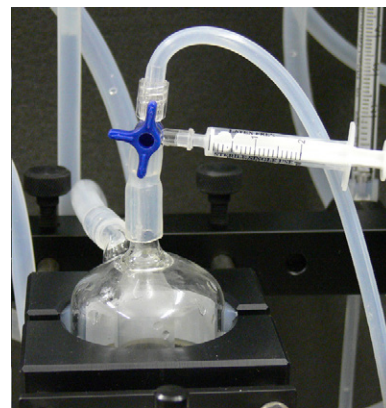

Fig. 34—Connect a syringe to the 3-way stopcock.
15. Fill the elastic chamber with about 2mL of air to dampen the pulsing pressure wave created by the pumping of the left ventricle. Connect a syringe filled with air to 3-way stopcock on the top of the elastic chamber (Fig. 34). If needed, open the stopcock to fill the elastic chamber with buffer. Then, rotate the stopcock until the syringe and the elastic chamber are connected. Push 2mL of air into the elastic chamber by pushing the plunger of the syringe. Close the stopcock on top of the elastic chamber so that the 2mL of air are trapped in the elastic chamber. Keep this stopcock closed throughout the perfusion.